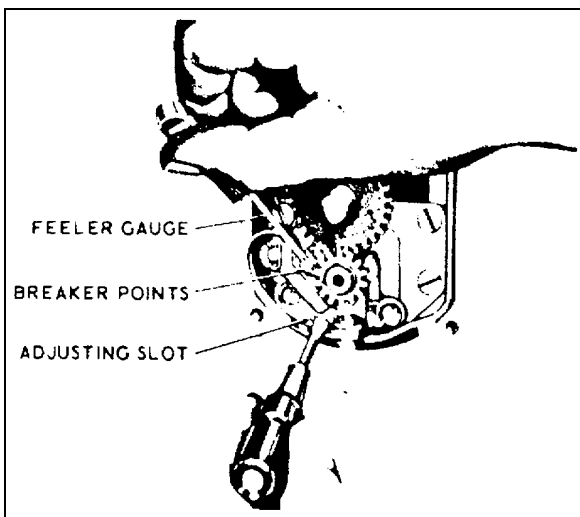

Figure 4-5. Measuring Magneto Point Gap
- c. Rotate crankshaft with hand crank (this also rotates magneto) until breaker points are wide open. Measure opening or gap with a feeler gage as shown in figure 4-5. At full separation, gap shall be 0.015 inch.